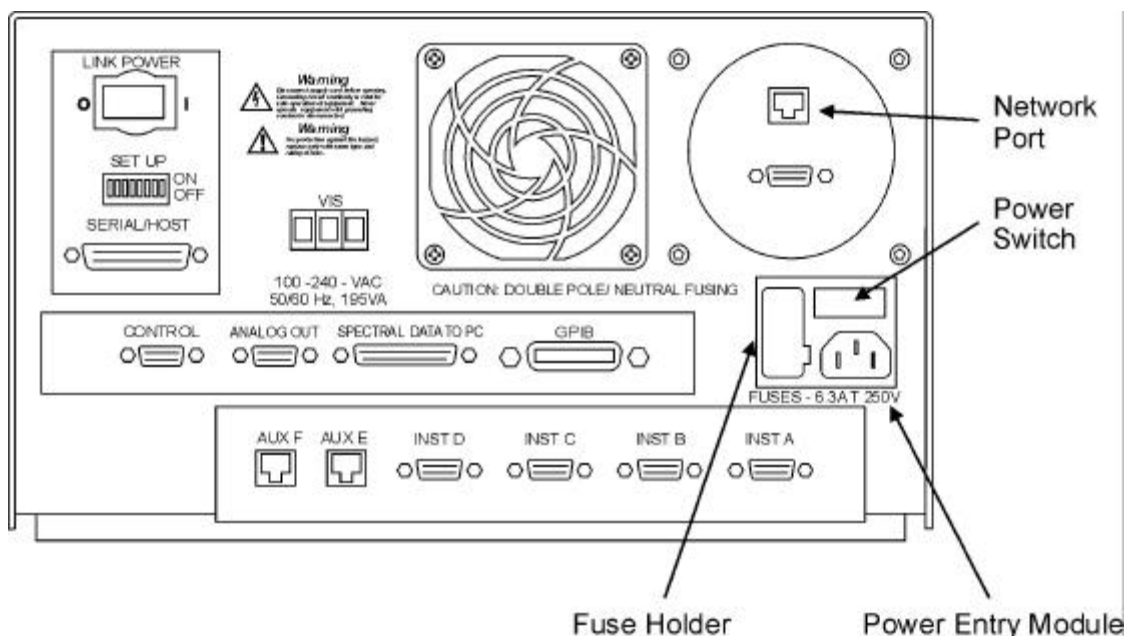

Figure A-1. Connectors at the rear of the Diode Array Detector
The Series 200 Diode Array Detector has an internal link. The Connections at the rear are as follows (see Figure A-1):
1. Configure the instrument to the appropriate port listed (see Table A-1 and Figure A-1). The detector power must be ON, that is the green light on the front panel must be lit.